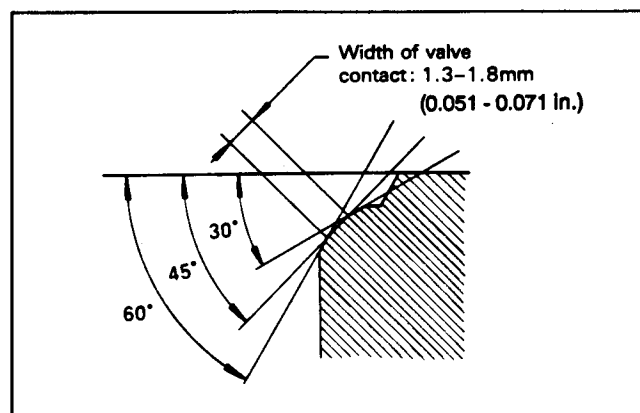

Figure 77
2. The valve seat can be resurfaced (Fig. 77). Resurface the valve seat so it contacts the mid-portion of the valve face.